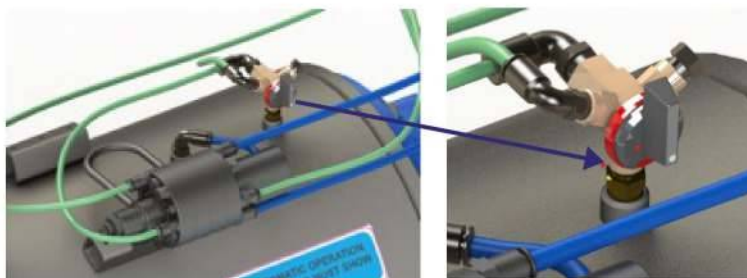

Figure 8 - 3 Way Tap in Auto Position
- a. On Hydraulic controlled units make sure 3 way tap is pointing to Auto. See Figure 8.